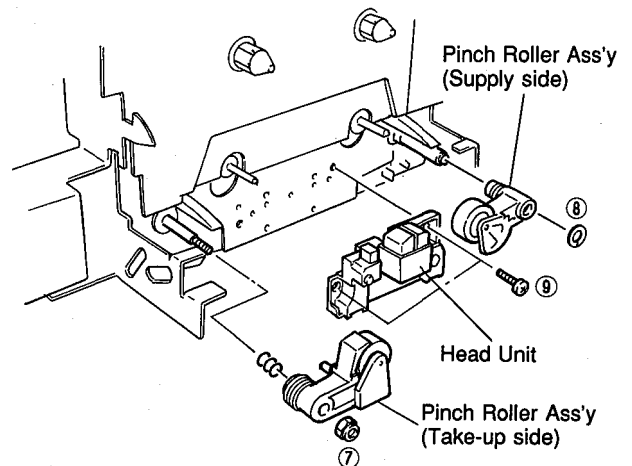

Fig. 4
Remove 1 nut (⑦) and 1 washer (⑧) in Fig. 4 and remove the Pinch Roller.
Remove 2 screws (⑨) in Fig. 4 and then remove the Head Unit.